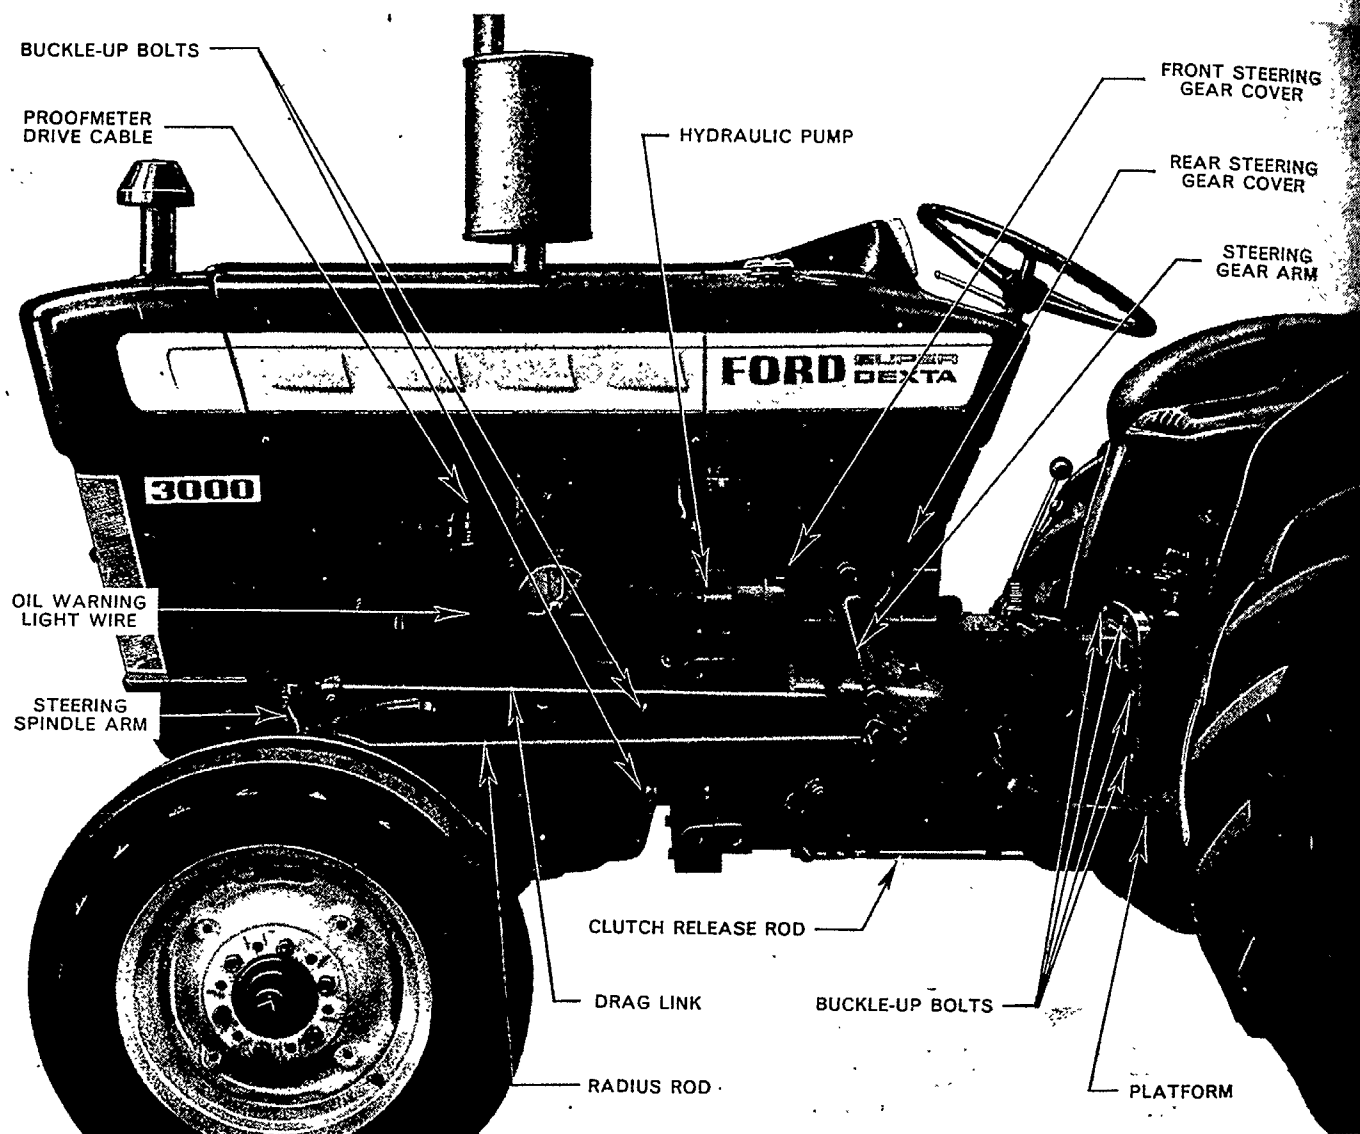

Figure 1
13. Reconnect the proofmeter drive to the rear of the generator, Figure 1.
24. Position the left-hand front and rear steering gear covers, Figure 1. Install the retaining screws.
6. Remove the four bolts in each of the left- and right-hand platforms and remove the platforms from the rear axle centre housing, Figure 1.
7. Remove the cotter pin and clevis pin from the clutch release arm and disconnect the clutch operating rod, Figure 1.
3. Align the clutch operating rod clevis with the clutch release arm and install the cotter pin and clevis pin, Figure 1.
4. Install the left- and right-hand platform with four bolts at each side and secure the platform to fender screws, three at each side, Figure 1. The right-hand platform should be checked for maximum parking brake ratchet engagement.